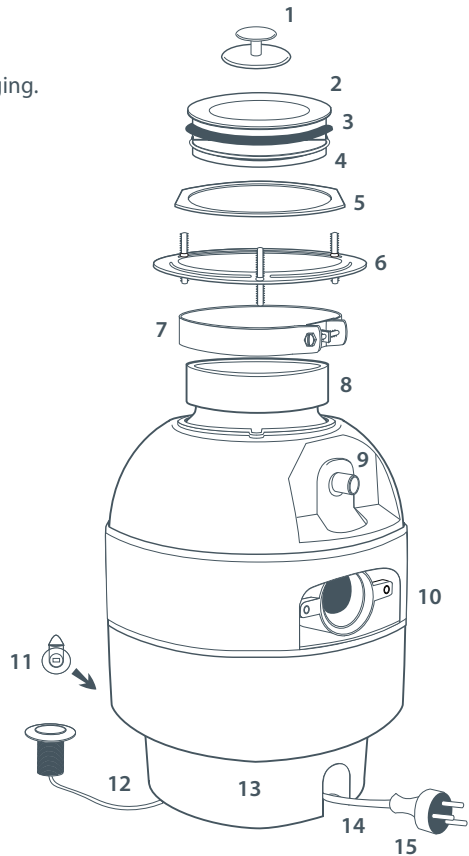

Fig 1. Three Bolt Mount System
- 2 Identify and check that all components are included in the carton before beginning the installation (fig. 1).